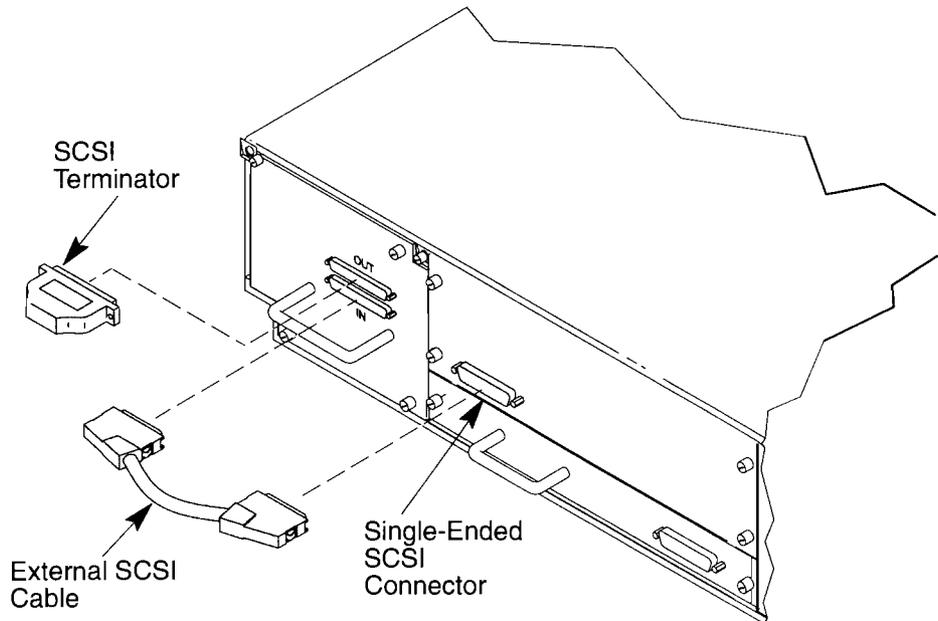

Figure B-22. Connecting the External SCSI Cable and SCSI Terminator
Connect the external SCSI cable to the single-ended SCSI connector and to the SCSI connector marked "IN" on the bulkhead panel (see Figure B-22). When connecting SCSI connectors, line up the pins on the connectors and press firmly until you hear a click.
3. Reconnect the SCSI terminator (see Figure B-22), or whatever external SCSI device cable you disconnected in Step 3 of "Remove the Disk Tray Assembly."